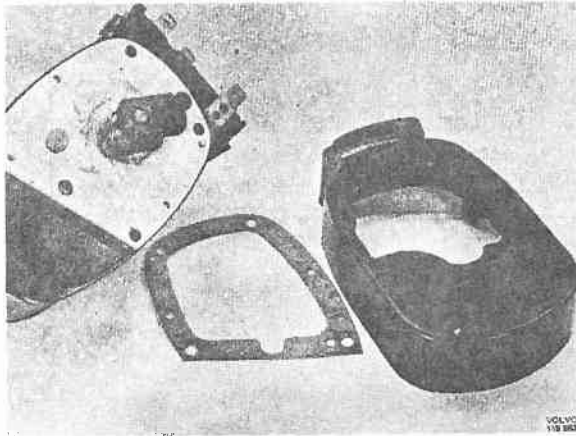

Fig. 36-16. Removing the housing and gasket
4. Remove the lower housing half and gasket, see Fig. 36-16.